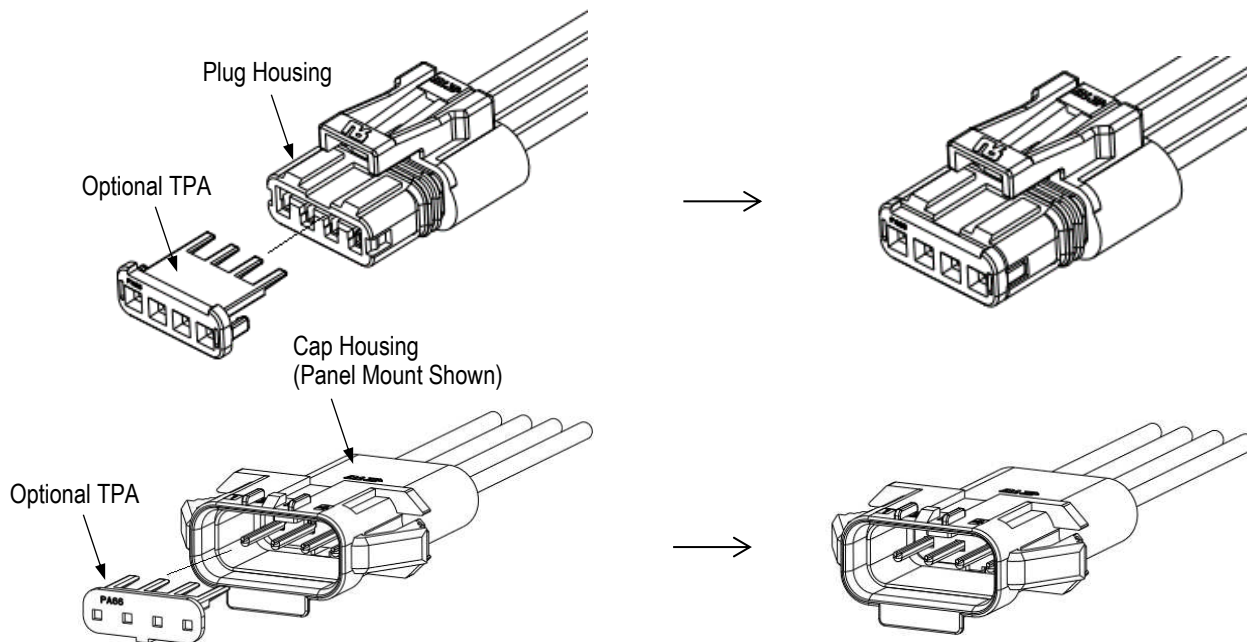

Figure 5
1. Grasp the TPA and push TPA straight into the plug and cap housing from FRONT (there should be an slight audible click). Refer to Figure 5.